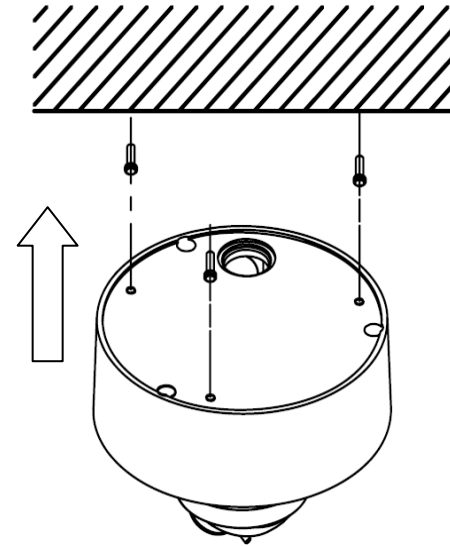

Figure 2.3.2 Install the Camera
Step 2: Use the screws to fix the dome camera on the ceiling. Figure 2.3.2